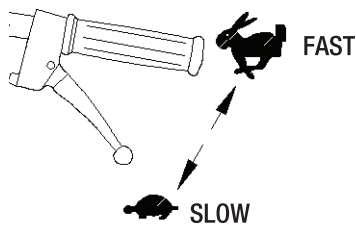

Figure 9
- Hold the throttle trigger fully depressed in fast position. (See Figure 9)
NOTICE: This cultivator is equipped with a centrifugal clutch, so the tines will not turn until the engine speed is increased. To increase the engine speed, lift up on the throttle trigger. (See Figure 9) To slow the engine down, slowly release the throttle trigger. Completely releasing the throttle lever will return the engine to idle and will stop the tines from rotating.